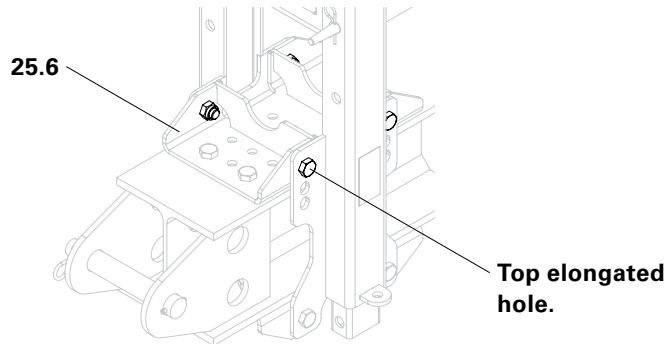

Fig. B4.03
- Ensure that the fixing board at the top (25.6) is fixed in the top elongated holes. (Fig. B4.03)